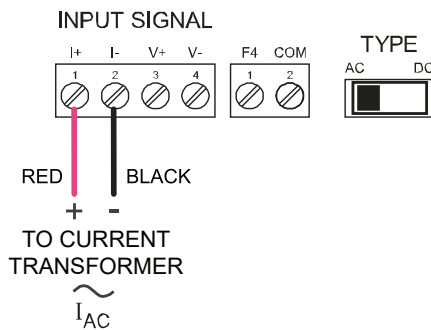

Figure 3: PD6400 Connections from PDA6405 Current Transformer with AC Switch Selected.
4. Reconnect the power conductor cable. See Figure 3 for a wiring example.